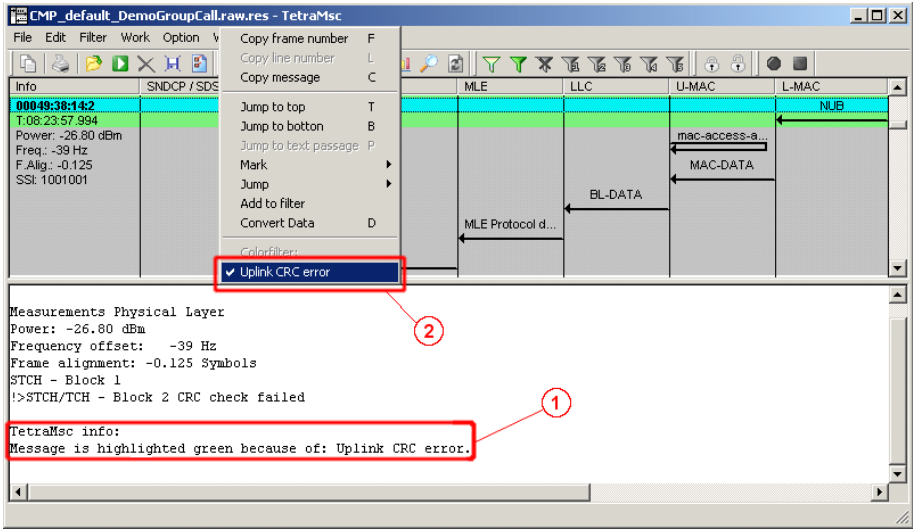

Figure 138 Setting the message highlighting in a context menu
The highlighting of messages (e.g. "Uplink CRC error" (1)) can be switch on or off by using the context menu. A click on the right-hand mouse button opens the context menu (see Figure 138). In the Color filter section, all errors for the chosen message are listed (2). Click on the error type to toggle the highlighted view.